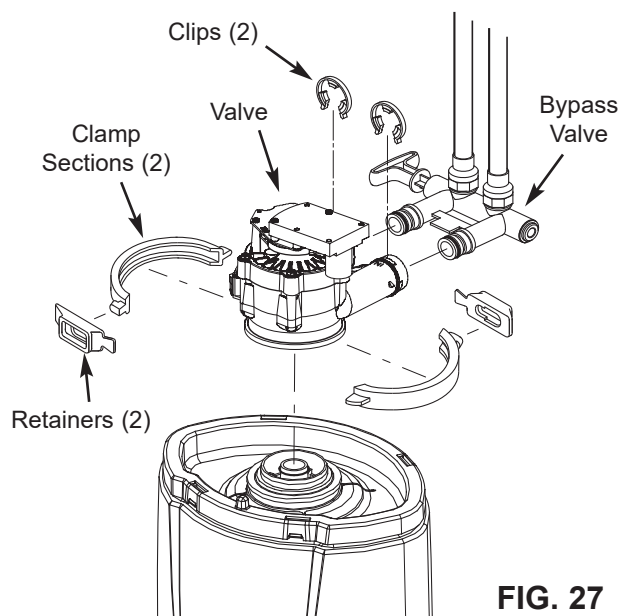

FIG. 27
6. Remove the clamp retainers (2) and clamp sections (2) that hold the valve to the tank (See Figure 27). Lift upward to remove the valve.